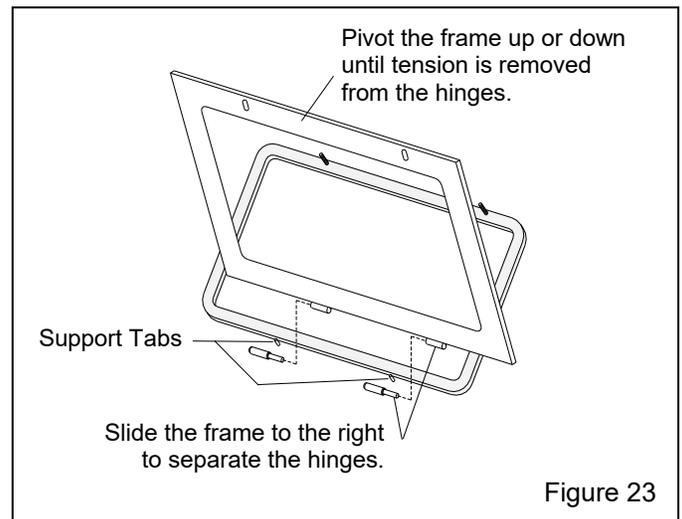

Figure 23
## 7.6 Window-Frame Removal – Figure 23
**7.6.4** To remove, slide the frame to the right. The hinges separate, as shown in Figure 23.